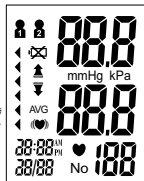

Fig. 2
2. Firmly press the **START/STOP** button to turn the unit on. The display will briefly flash a test display, Fig 2.